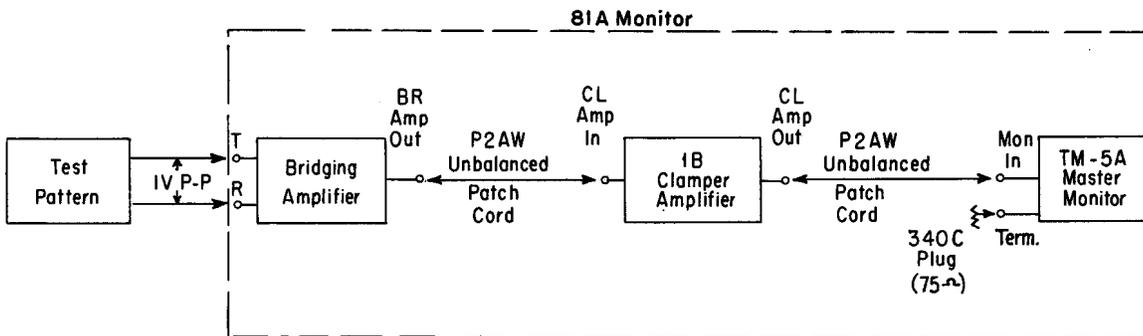

Fig. 8 - Equipment Arrangement for Kinescope Test
- (1) Set up the circuit as shown in Fig. 8.
- (2) Set the CLAMPER switch to ON.
- (3) Adjust the V and H controls on the TM-5A monitor until the pattern on the kinescope screen is locked in.
(4) Adjust the kinescope BRIGHTNESS and FOCUS controls to give a picture of normal contrast and clarity. Some distortion and lack of focus may be apparent at the corners of the pattern. The picture should fill the screen of the kinescope.
(5) The high frequency response of the kinescope channel can be generally determined by observing the horizontal resolution in the vertical wedge of the test pattern.
9.08 Use of the test pattern method to check the kinescope channel is limited. Therefore, it is advisable to completely test the channel as described in Paragraph 9.04 with a vacuum tube voltmeter connected to the kinescope socket as described in Paragraph 4.10(2). Also steps (7) and (8) of Paragraph 4.10 should be followed to establish a frequency characteristic limited at 4 megacycles.